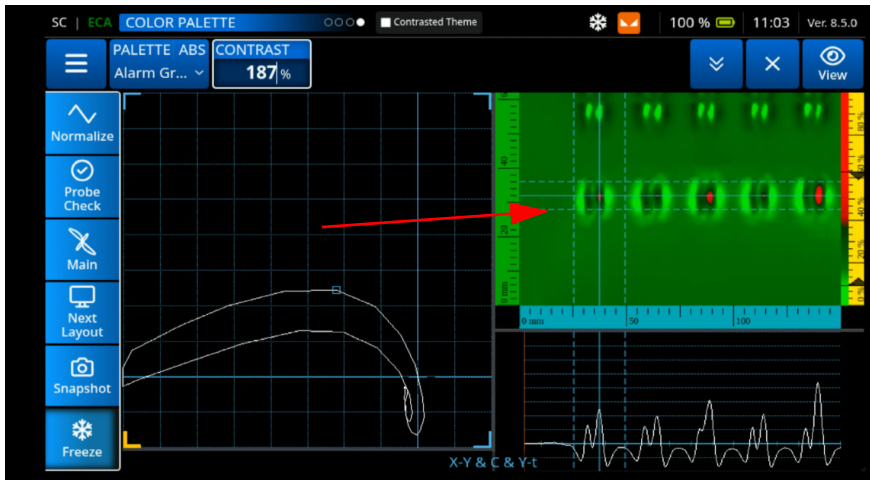

Figure 4-73 Adjust Red Contrast
25. Using the **Contrast** setting, adjust the red color to see the crack on the C-Scan (See Figure 4-73 on page 172).